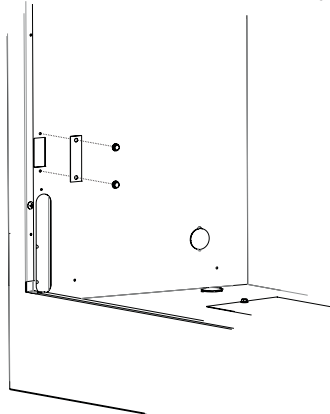
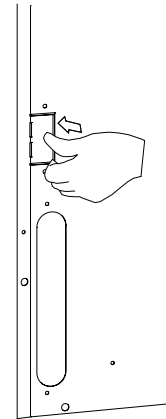

Figure 14a
Figure 14b
2. Remove the cover plate on the left side of the firebox and discard. See **Figure 14a**. Some units will not have a cover plate. For those units, bend the tab out of the way. See **Figure 14b**.